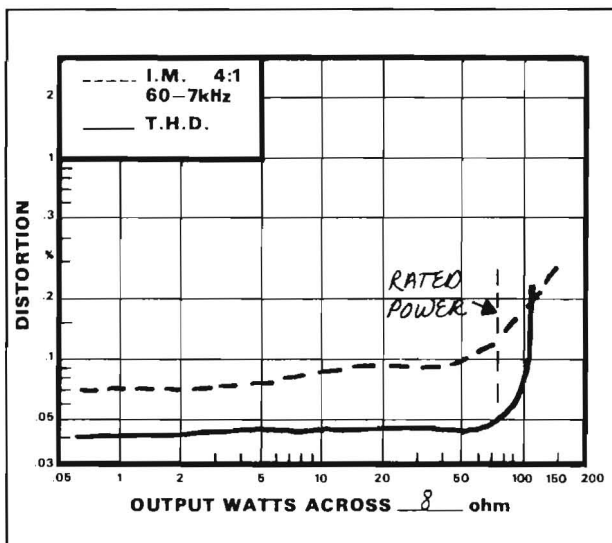

Figure 30 IM and THD Distortion of an Amplifier
1. Use the equipment setup and the procedure for harmonic distortion measurements and make a series of readings by using a 1000 Hz tone with a power output of 250 mW\* increasing the output until the rated power of the amplifier is **exceeded**. Plot this data on a graph similar to that shown in Figure 30.